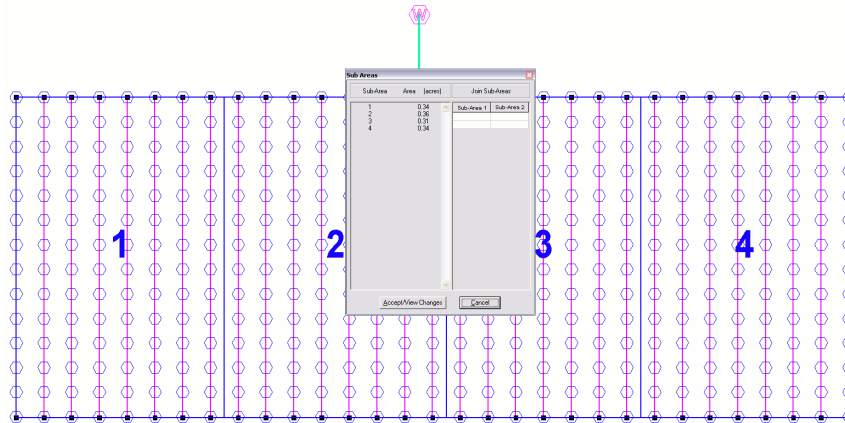

Figure 4-46
4. Click **[OK]**. A dialog will appear and a preview of the subdivision specified will be shown in the design view. Click the **[Accept/View Changes]** button to accept the subdivision. See Figure 4-46.